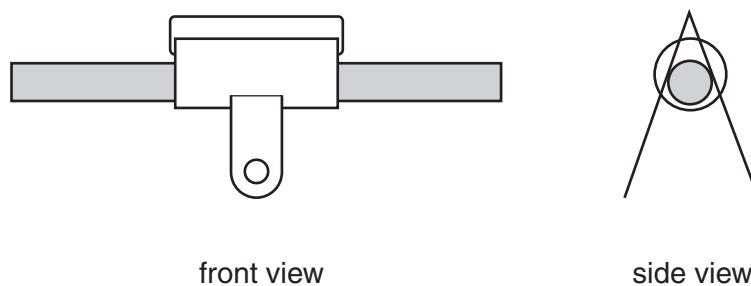

Fig. 1.4
- 3 The rod must be held inside one of the bulldog clips, but the jaws must be able to close firmly, as shown in Fig. 1.4.